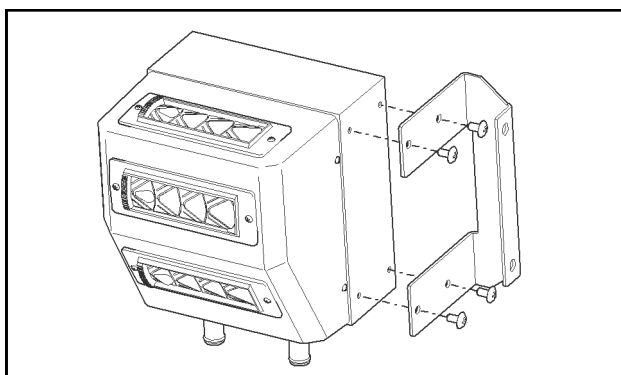

Fig. 2.1 (Pre-Assemble Heater to Bracket)
2.1 Pre-assemble the heater bracket onto the heater using the screws already installed on the side of the heater. See Figure 2.1. Tighten hardware.